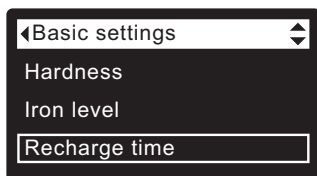

FIG. 46
3. Press the SELECT (O) button to display the Basic settings menu (See Figure 46).
7. Press the SELECT (O) button. The display will go back to the Basic settings menu (Figure 46).